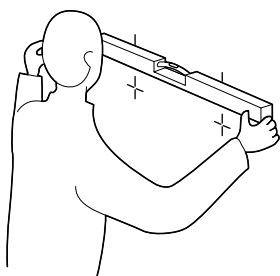

fig. 2
- 2 With the Wall Bracket held in place, ensure it is properly leveled. Then, mark where the four holes must be drilled. (fig. 2)